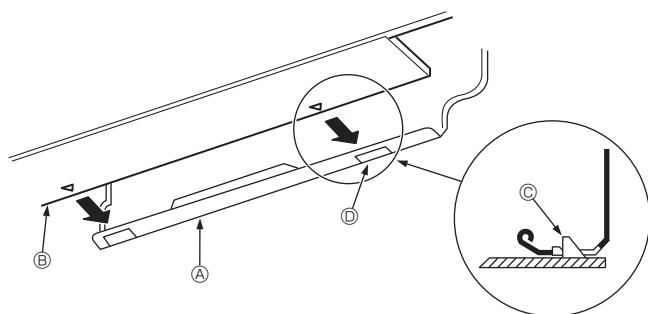

Fig. 3-15
3. While inserting the refrigerant piping and drain hose into the wall penetration hole (penetration sleeve), hang the top of the indoor unit to the mount board ①.
5. Fasten by pushing the bottom part of the indoor unit onto the mount board ①. (Fig. 3-15)
* Check that the knobs on the bottom of the indoor unit are securely hooked into the mount board ①.
- Ⓐ Mount board ①